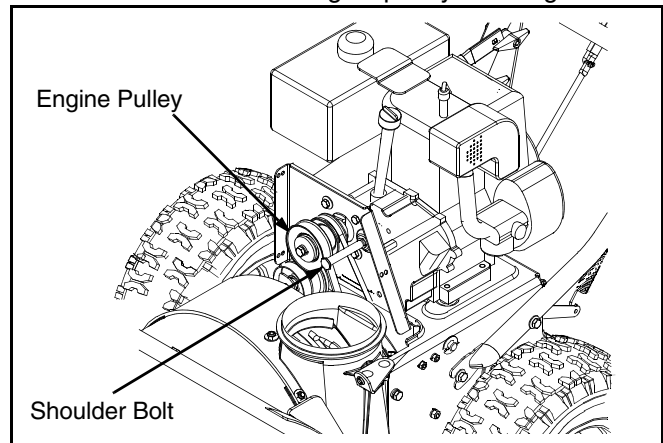

Figure 19
- Remove the large shoulder bolt and washer on the left hand side of the engine pulley. See Figure 19.
- Insert ferrule on auger idler rod into bracket assembly and secure with flat washer and cotter pin. Reassemble the large shoulder bolt and lock washer as shown in Figure 19.